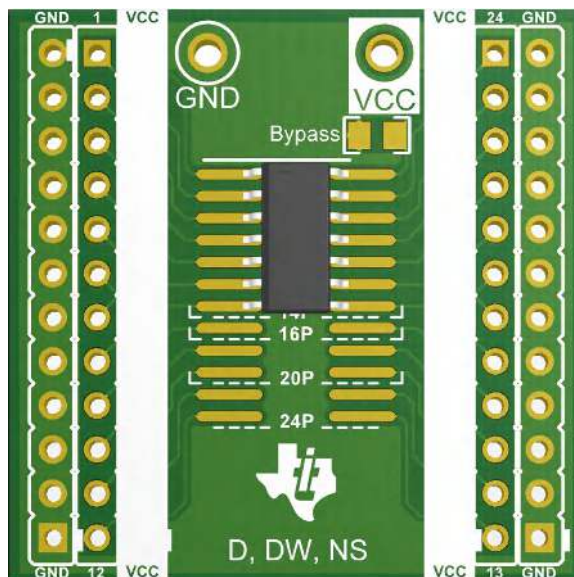

Figure 2-2. 14-Pin Device in D Package
3. Ensure the V_{CC} pin of the device is connected to the bypass capacitor. If pin 1 of the device is connected to pin 1 of the footprint, then it will be connected correctly. Figure 2-2 shows an example of a 14-pin device in the D package placed correctly on the EVM.